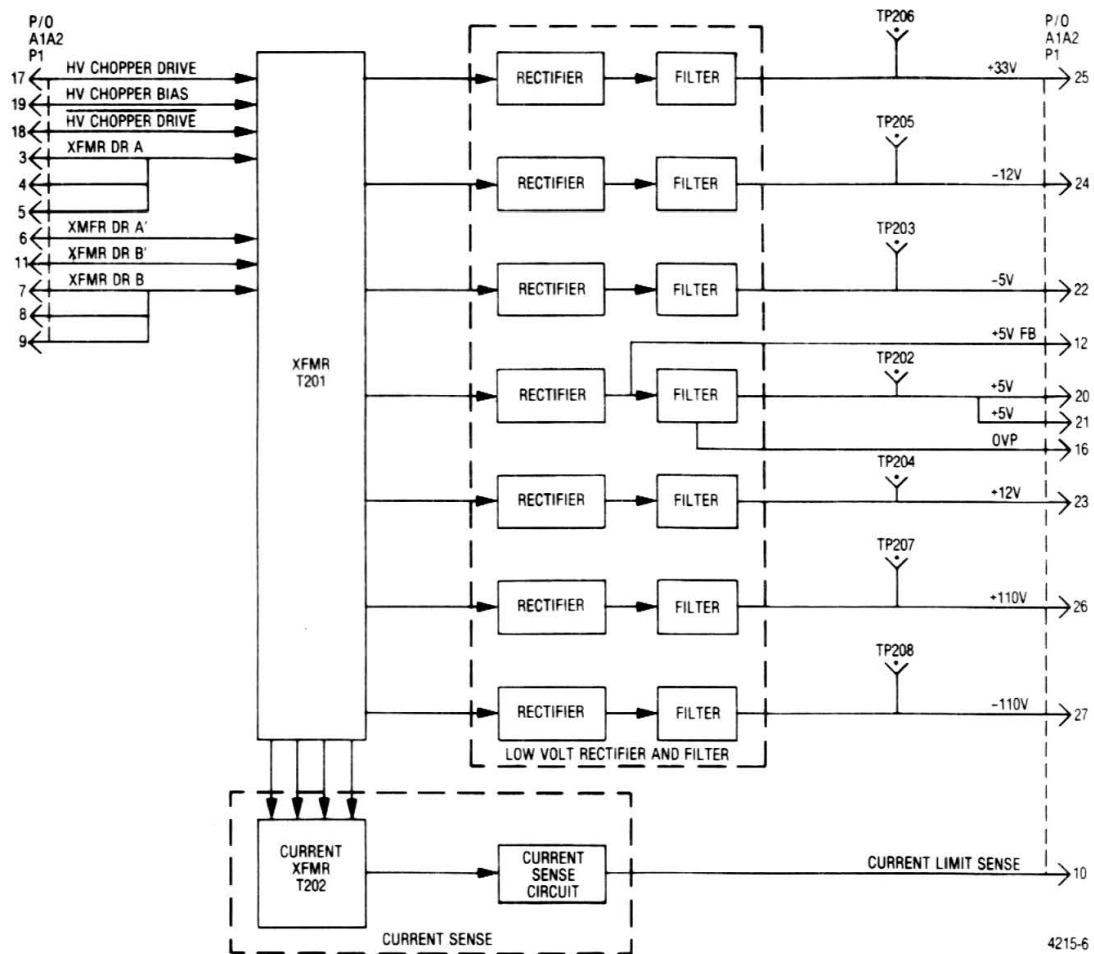

Figure 7-8. Low Voltage Power Supply Output Module A1A2 Block Diagram
17. **OUTPUT MODULE A1A2.** The output module (figure 7-8) provides the regulated output voltages and the current sense voltage for the overcurrent protection circuit. Input power is provided by signals XFMR DR A, A1, B, and B1. These signals are 20 kHz squarewaves and drive the primary windings of transformer T201. After full wave rectification and filtering, the nominal output voltages are available as shown in figure 7-8.